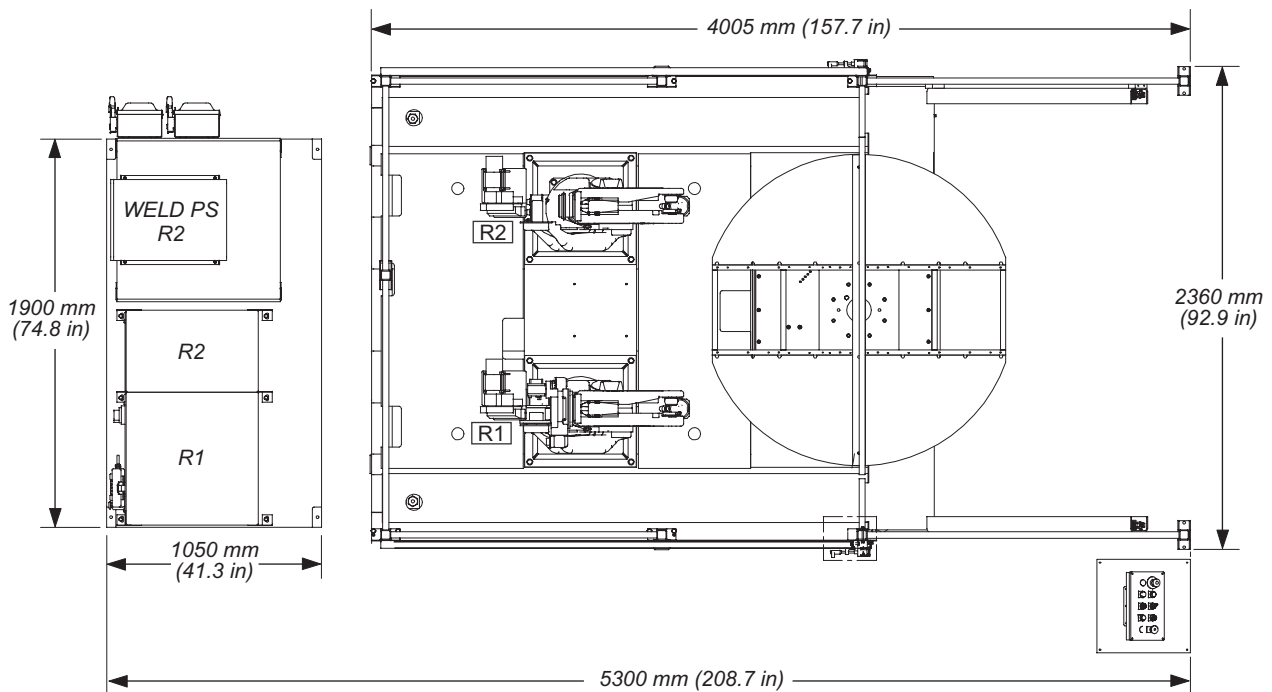
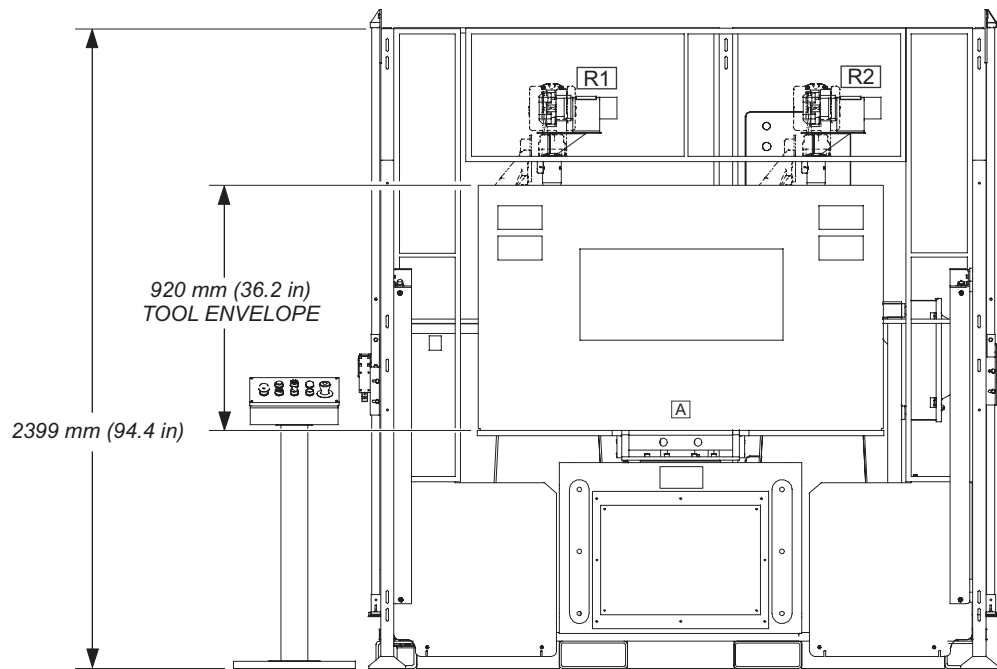
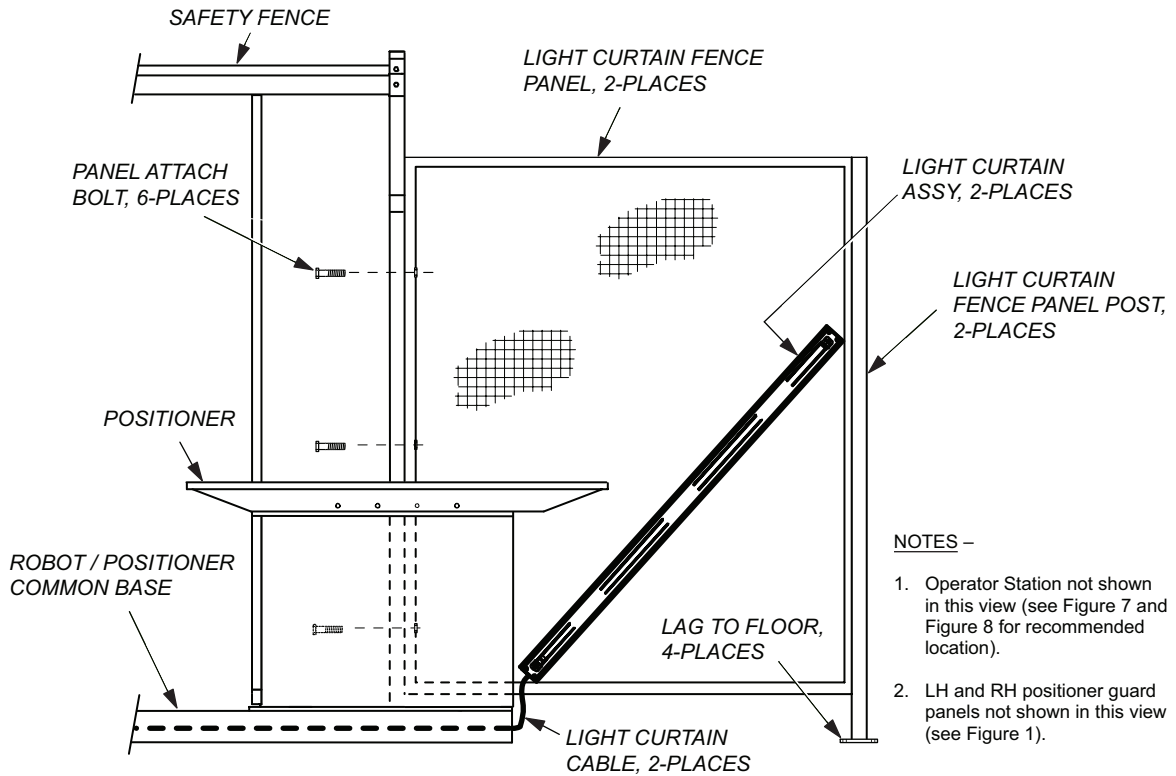

Figure 7 Plan View – Installation of the ArcWorld[®]-1200 DRC System
Figure 8 Elevation View – Installation Dimensions for the ArcWorld®-1200 DRC System
Figure 11 Light Curtain Installation
1. Clear floor space needed for the ArcWorld[®]-1200 DRC system (see Figure 7). Allow an additional 1.2 - 1.5 m (4 to 5 ft) on all sides of the work cell to facilitate installation.
- Place robot/positioner common base in position (see Figure 7).
Note: Make sure there is adequate room on all sides of the robot/positioner common base for the Operator Station, the light curtains, and the NX100-DRC/weld power source common base (see Figure 7).
3. Place the common base in position behind the ArcWorld®-1200 DRC work cell (see Figure 7).
4. Place the Operator Station pedestal outside light curtain fence panels (see Figure 7 and Figure 8 for recommended location).
The light curtain components – the sender unit, the receiver unit, and the two fence panels to which the light curtain units are attached – are pre-assembled and secured inside the work cell for shipping. Refer to Figure 11 and install the light curtain assemblies to the work cell safety fencing as follows:
2. Install the light curtain fence panels to the wire mesh safety fencing. Use the three bolt holes located on the safety fence posts to mount the light curtain fence panels to the safety fencing (see Figure 11).
1. Check alignment of light curtain fence panels. Each light curtain fence panel should be parallel to the safety fence panel to which it is attached. Adjust as required (see Figure 7).
2. Secure the safety light curtain fence panel posts to the floor (see Figure 7 and Figure 11). Use a suitable concrete drill bit and special anchor (lag) bolts (refer to Appendix A for correct drill bit and anchor bolt). Be sure to remove all concrete dust from the drilled hole before driving each anchor bolt.